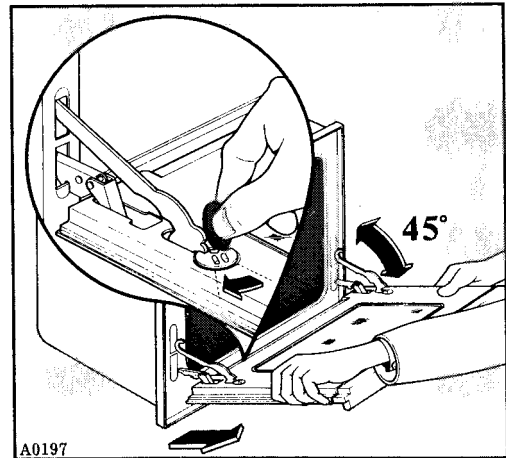

Fig. 17
2. Raise the door to the limit stop and pull it out in a forward direction (Fig. 17). Grasp the door on the two sides - don't pull it by the handle!